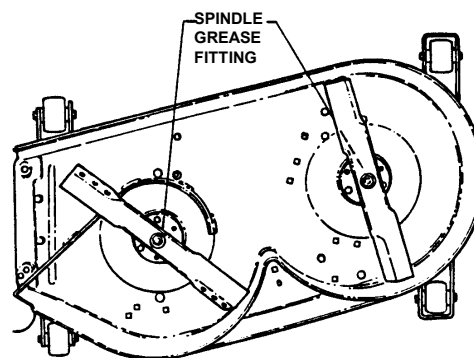

FIGURE 3.5
4. Lubricate spindles with three shots of general purpose grease from grease gun. See Figure 3.5.